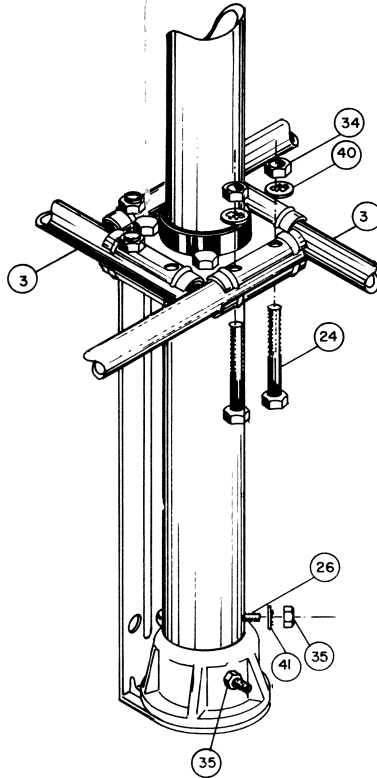

Figure 2
( ) Referring to Figure 2, assemble the 7/8" x 25" R1 tubes (item 3) into the brackets, aligning the holes and fastening with 1/4" x 1-1/2" screws, nuts, and lockwashers (items 24, 34, and 40).